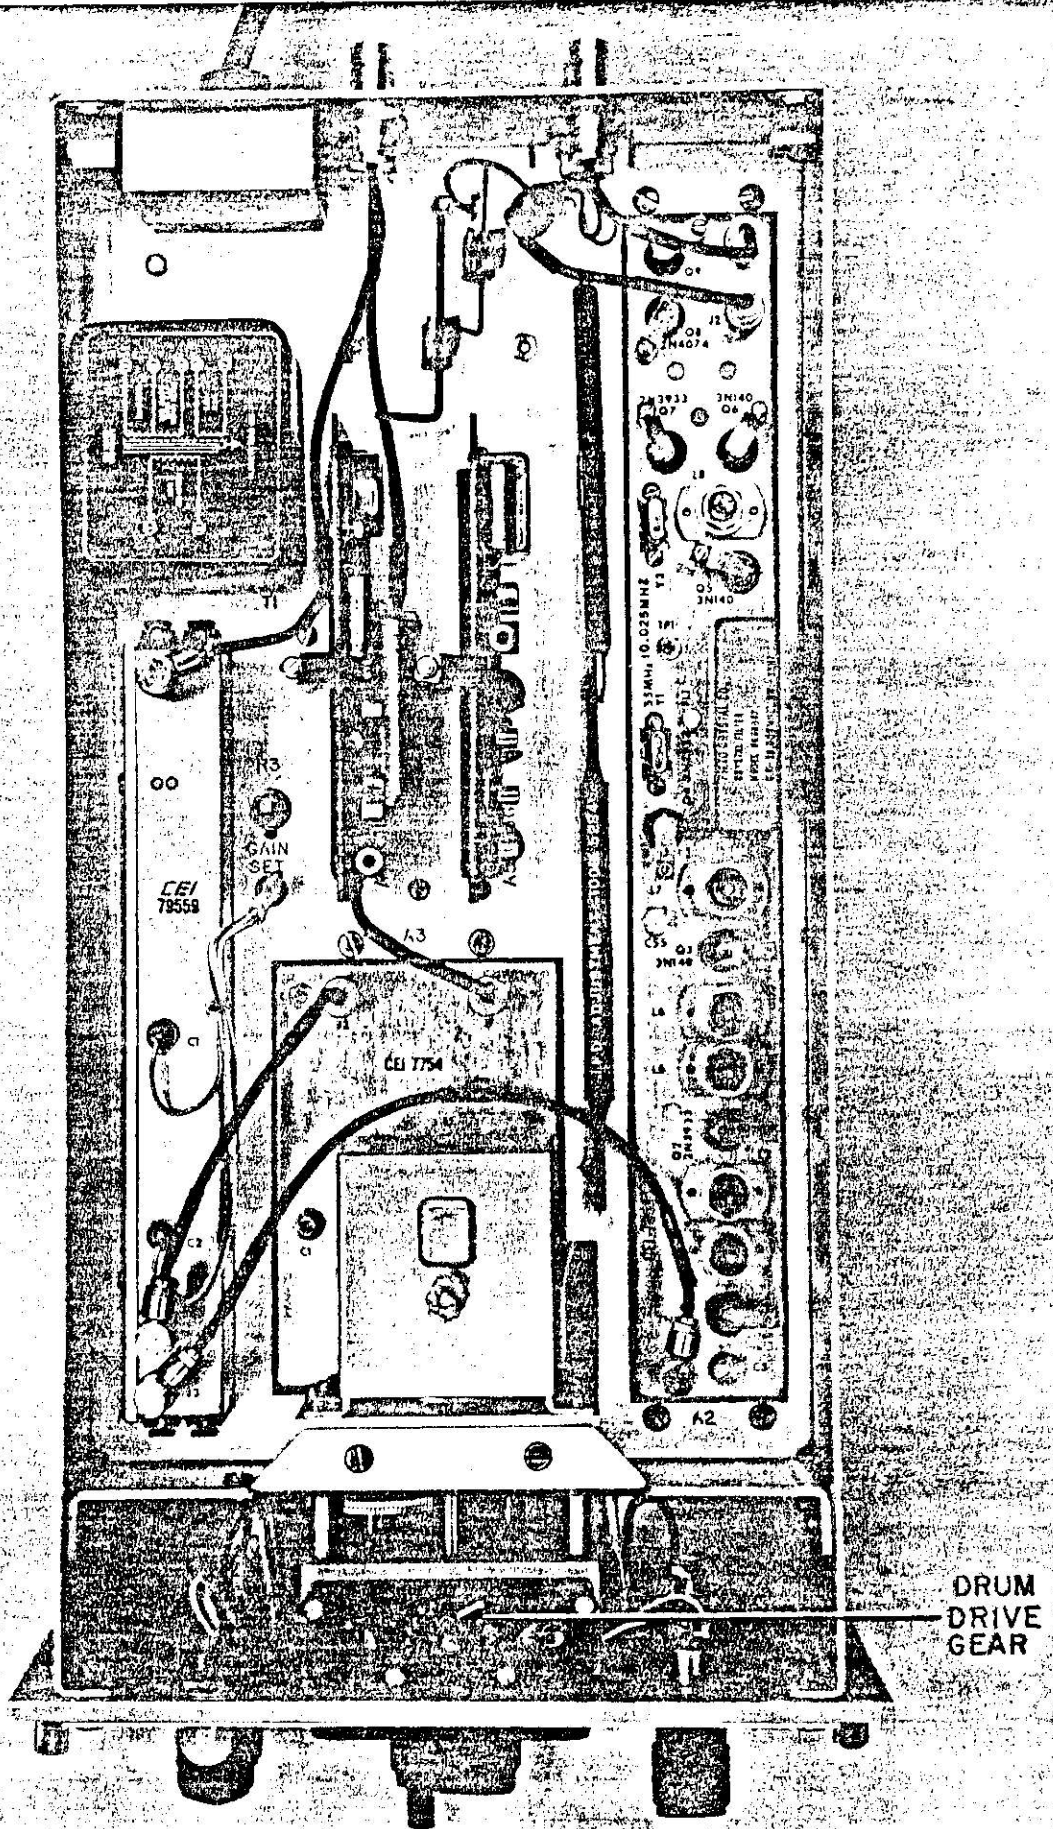

FIGURE 5-1. TYPE 232-( ) TUNABLE FILTER, TOP VIEW
- (1) Turn the tuning knob clockwise until rotation stops.
- (2) The mark to the right of the arrow should line up with the dial pointer. If it does, the tape is properly positioned. If not, proceed with step (3).
- (3) Loosen the set screw on the drum drive gear (See Figure 5-1).
- (4) Remove the clear plastic top from the tape chamber and by hand move the tape, independent of the gear train to align the mark under the dial pointer. Tighten the drive gear setscrew.
- (5) Perform the dial calibration procedures described in paragraph 4.5.3.